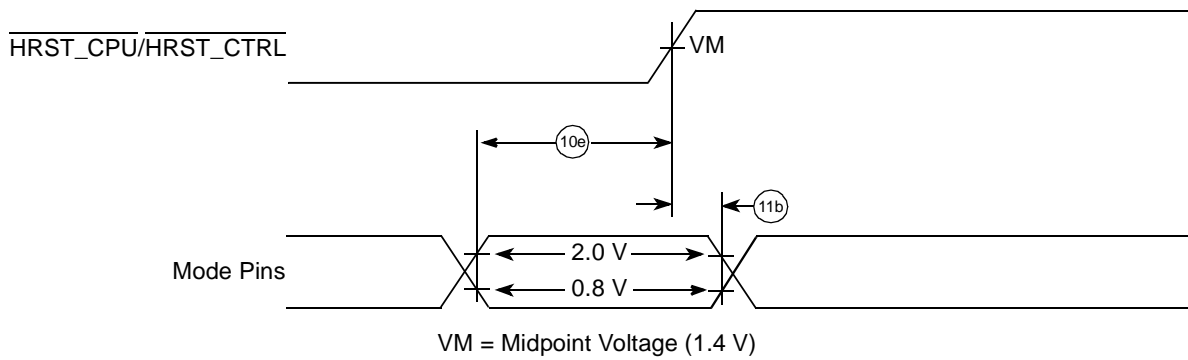

Figure 13. Input Timing Diagram for Mode Select Signals
5. All mode select input signals specifications are measured from the TTL level (0.8 or 2.0 V) of the signal in question to the $VM = 1.4$ V of the rising edge of the HRST_CPU/HRST_CTRL signal. See Figure 13.
Figure 13 shows the input timing diagram for mode select signals.